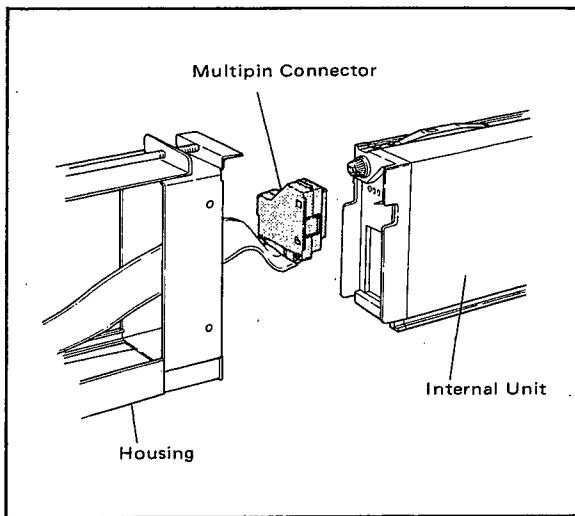

Figure 5-10. Connecting the Multipin Housing Connector.
(3) Internal Unit Installation.
- a. Plug the multipin housing connector into the socket on the rear of the internal unit. See Figure 5-10.